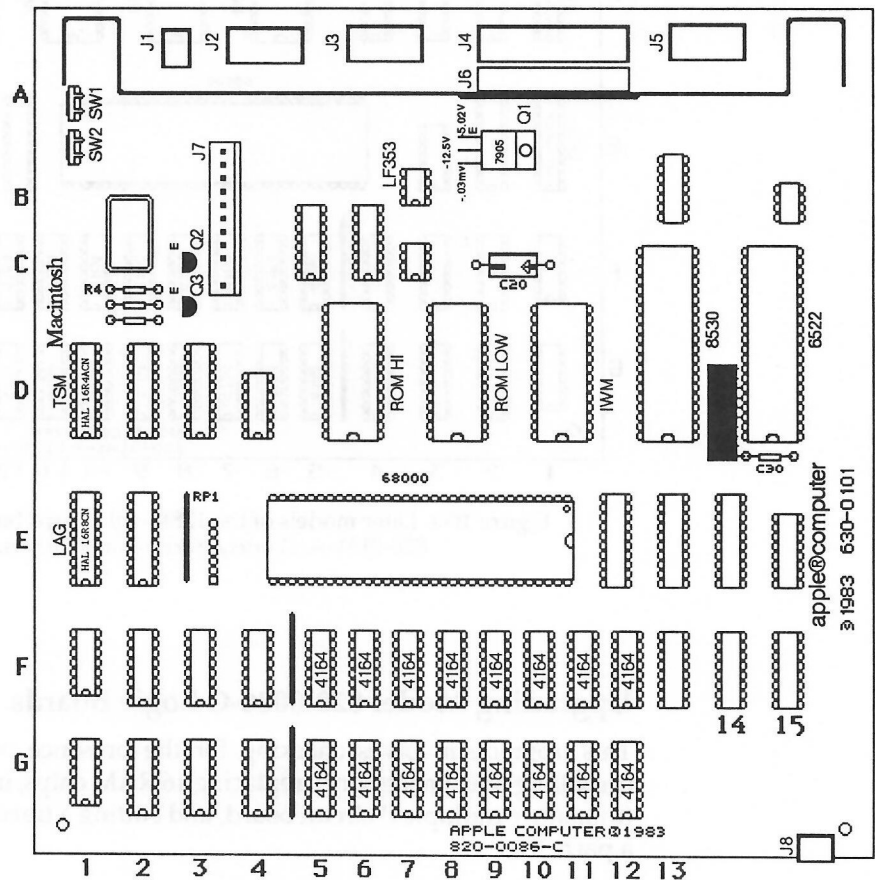
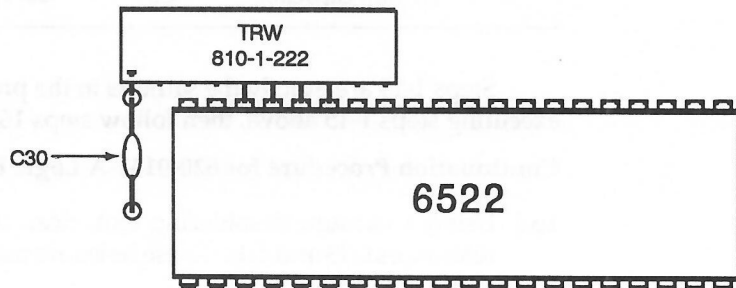

Figure 10-2 Early models of the 128K logic board bear part number 820-0086-C.
Figure 10-8 6522/resistor network modification details.
As illustrated in Figures 10-2 to 10-3, there are two models of the 128K logic board. The easiest way to tell one from the other is by reading a part number stamped at grid locations G8 to G12. Early models bear part number 820-0086-C. Later models bear part number 820-0141-A. Since there are major differences between the two models, the component level upgrades vary. In addition, because the original RAM on both boards is soldered, not socketed, both upgrades are labor intensive. Allow yourself at least four hours to complete either project at the component level.
As illustrated in Figure 10-2, original model 820-0086-C logic boards should be checked for the presence of a resistor network on the 6522 VIA (Versatile Interface Adapter) chip. The earliest boards lack the resistor pack. Without it, the Mac tends to lock up. Installation, if necessary, is part of the upgrade.
1. Locate the sixteen 4164 64K RAM chips illustrated in Figure 10-2 at grid locations F5 to F12 and G5 to G12. Find their counterparts on the actual 820-0086-C logic board. Mark all 16 chips for removal. Use a fast-drying brightly colored nail polish. The idea here is to make absolutely sure that you don't cut away the wrong chip.
16. Refer to Figure 10-2. Check for the presence of a resistor network on the 6522 VIA chip. If you find one, skip to step 17. Otherwise, use a vacuum desoldering tool to clean the solder from pins 23, 24, 25 and 26 on the 6522 chip and also from the top of C30. Insert the resistor network into the desoldered holes, bend the body over 60 degrees so that it's relatively flat to the logic board (not standing straight up), and solder everything back together as shown in Figure 10-8.